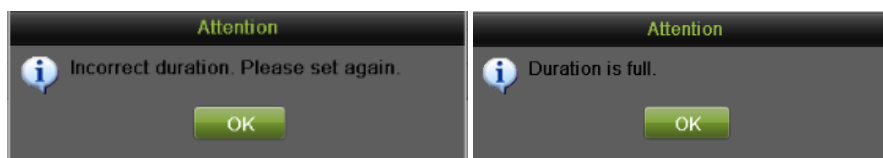

Figure 49 Schedule Configuration Error Messages
- 5) If there are scheduling errors detected, error messages such as those shown in Figure 49 will appear.